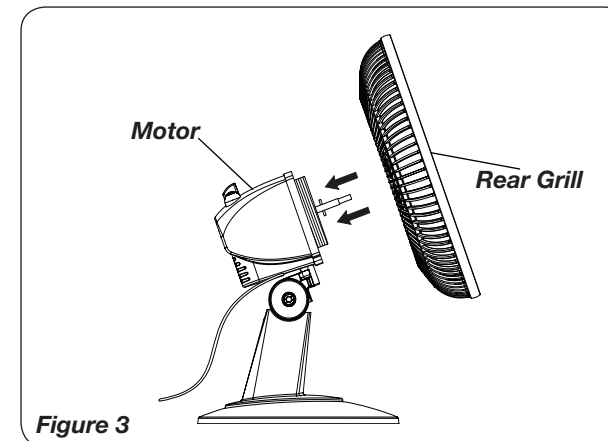

Figure 3
3. Tilt fan head back. Put *Rear Grill* on *Motor* with arrow pointing upward. (Figure 3)